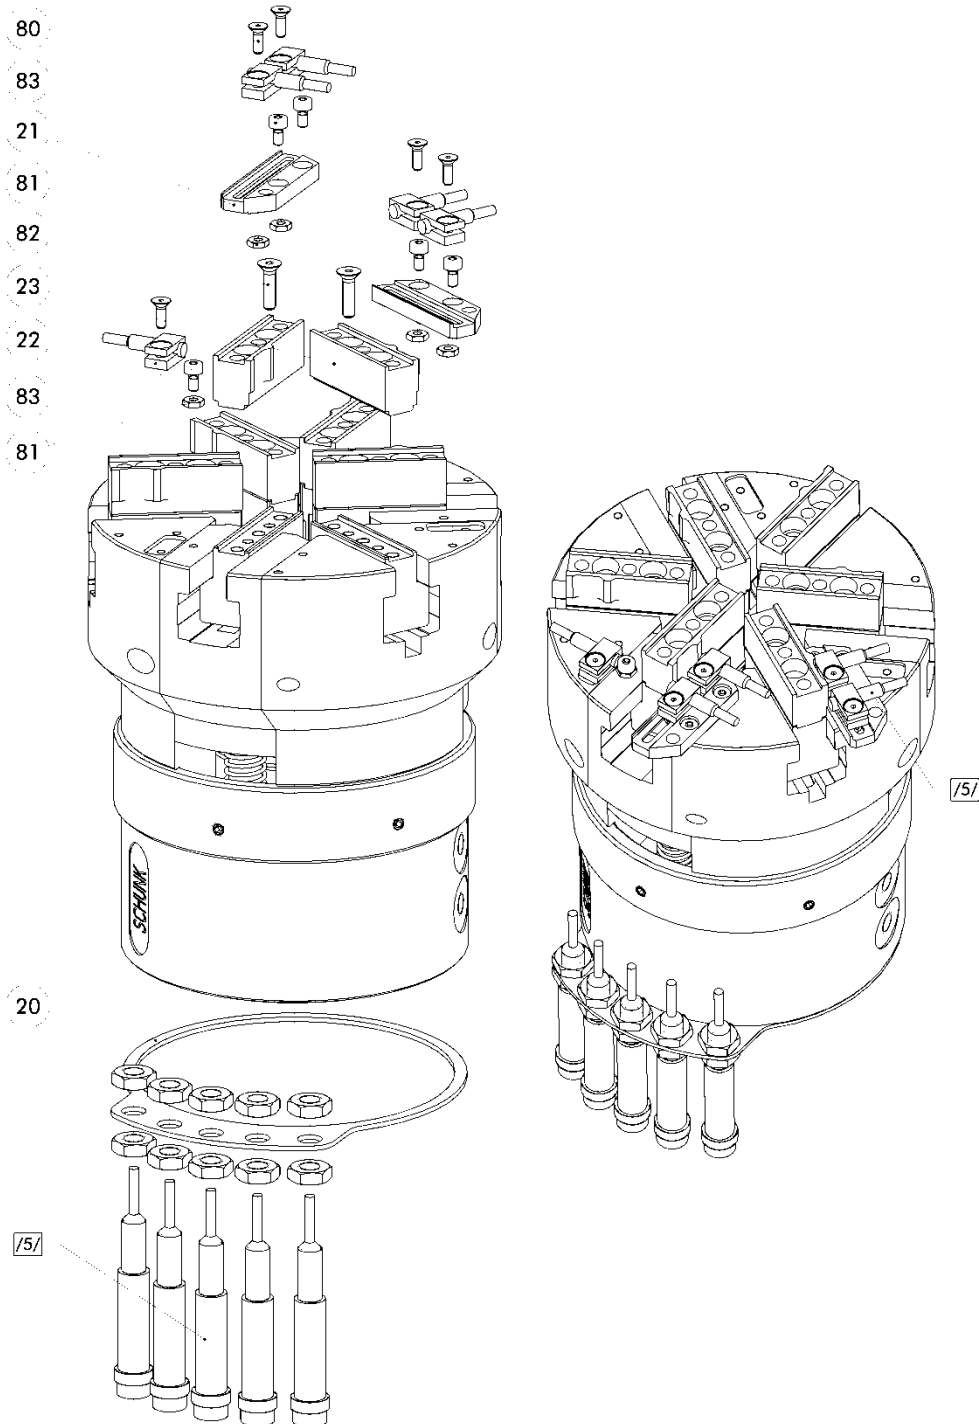

Figure 51: Mounting kit in exploded view
The retaining plate (item 21) must be fastened directly next to the Z-stroke monitoring or the triple jaw A monitoring so as to make routing the cable easier (cf. Figure 51).
- You can fasten the terminal of the proximity switch directly to the retaining ring (item 20) using the two nuts M5x0.5 included in the scope of delivery (cf. Figure 51).
- You can guide the head of the proximity switch through the holes in the retaining ring (item 20) and fasten it there with a cable tie.